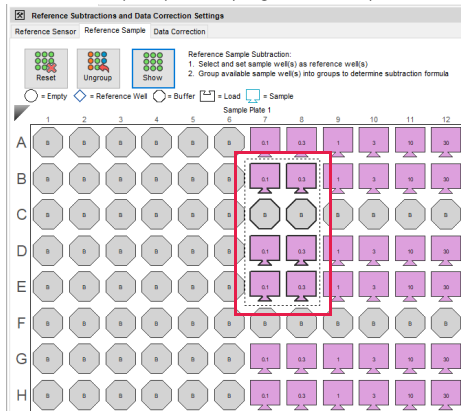

Figure 4-47: Selecting Multiple, Sequential Wells
- To view data for multiple sequential wells, use your mouse to draw a box around the wells in the biosensor tray or sample plate (Figure 4-47).